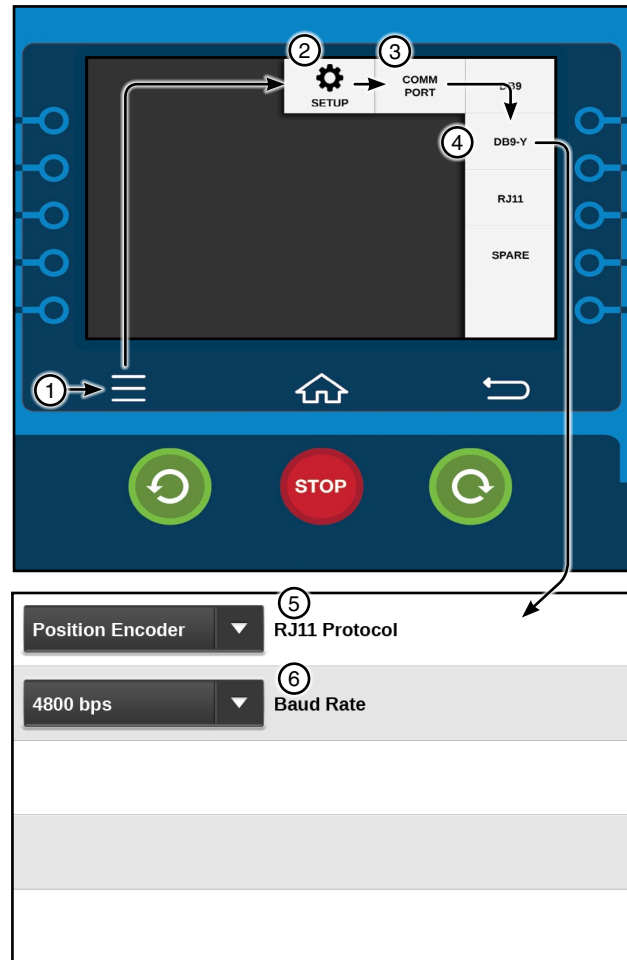

Figure 40-1 1. Menu 2. Setup 3. Comm Port 4. RJ11 5. RJ11 Protocol 6. Baud Rate
- (c) Select the **RJ11 Protocol** field and choose **Position Encoder** from the list. See Figure 40-1.